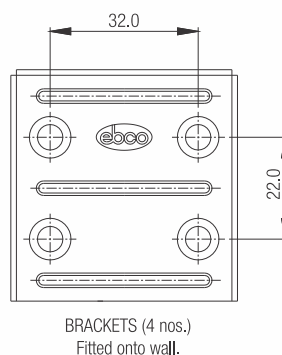

Fig.2
2. Fit Brackets on the wall as per desired height (Refer Fig. 2).
2. Fit brackets on the wall as per desired height (Refer Fig. 2).
2. Opening slot of 29 mm by 18 mm is required in the back panel for the hook to fit through as shown in Fig. 2.